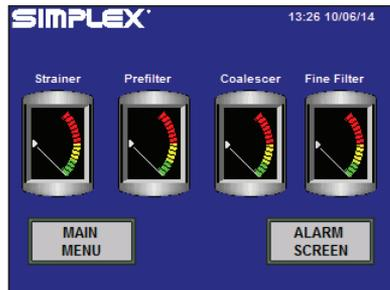

Figure 6 System Status Screen
1. On the System Status Screen (Figure 6), press the “MAIN MENU” button on the touchscreen.